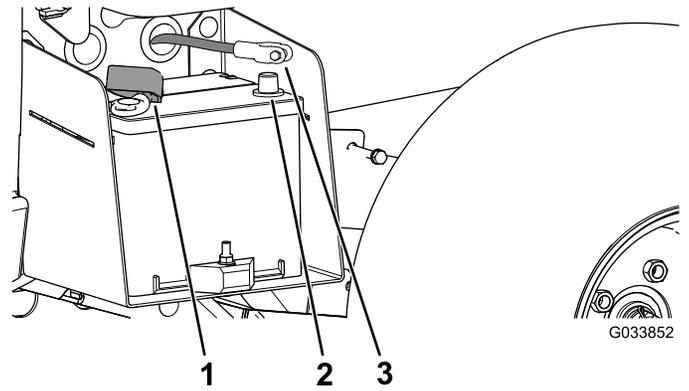

Figure 5
3. Install the positive-battery cable (red) onto the positive (+) terminal of the battery and secure the cable with the bolts and nuts (Figure 5).